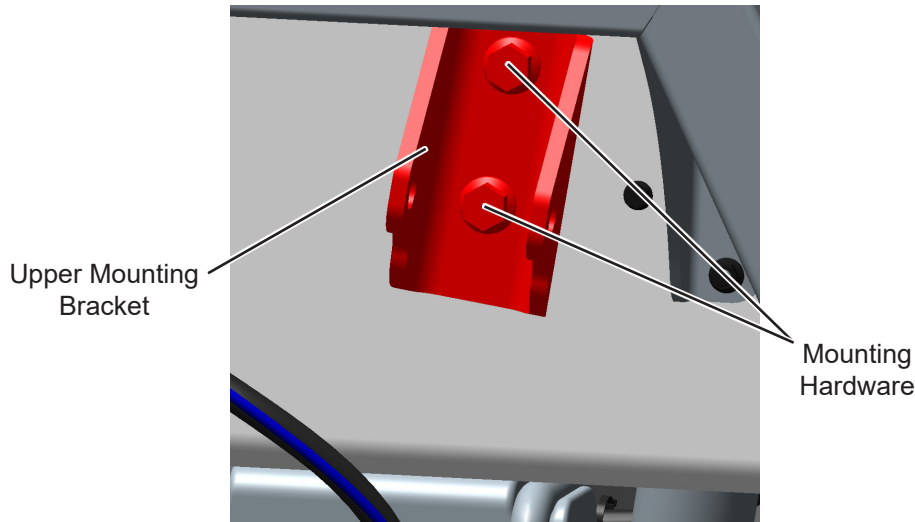

Figure 2 - Upper Mounting Bracket Removal
6. Loosen and remove mounting hardware securing upper mounting bracket to frame rail. See Figure 2. The lock nuts will not be reused.